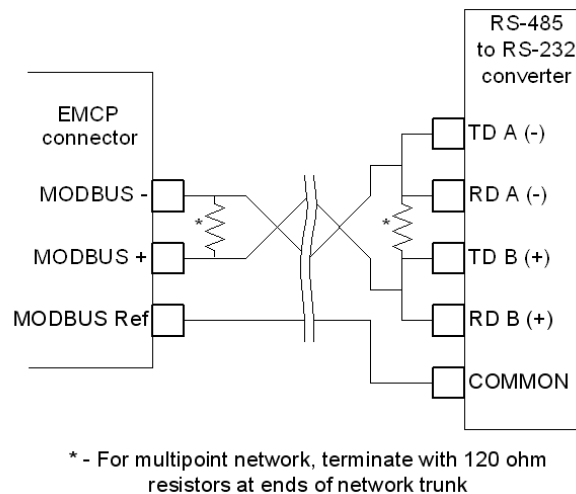

Figure 64: Possible Wiring Configuration To An RS-485 To RS-232 Converter
- Figure 64 shows a possible wiring configuration to a RS-485 to RS-232 converter.